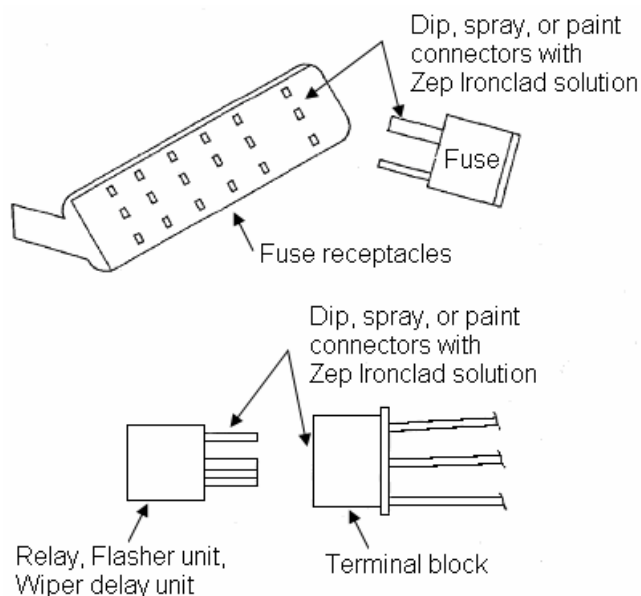

Figure 3 Treatment Of Fuse Panels And Relays With Zep Ironclad
- f. Mix the Zep Ironclad thoroughly and apply the solution to the fuse panel, relays and fuses, as shown in Figure 3.